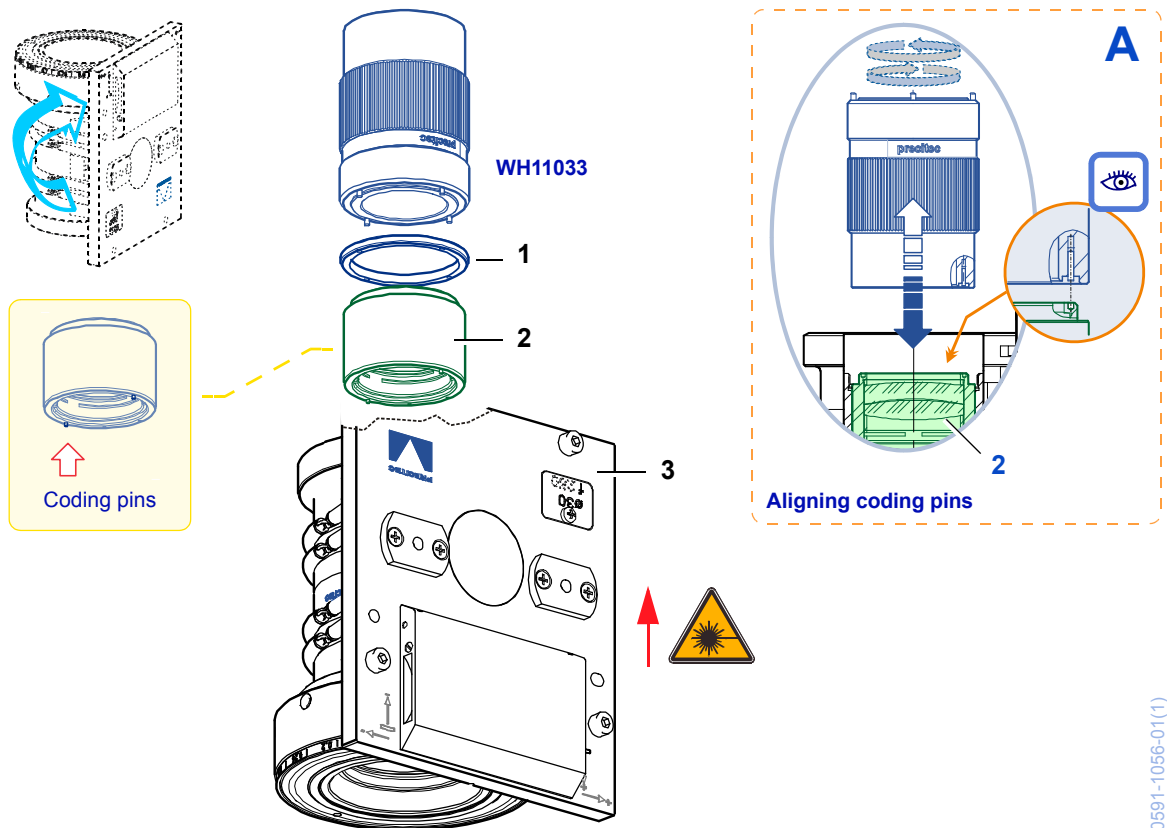

Fig. 5-8 Maintenance: Lens holder F125 (focusing optics)
2. **Insert the replacement lens holder with the coded pins** (focal length identification) **facing downwards into the exchangeable cartridge (3). Align it using the auxiliary tool (WH11033, rotated by 180°) until the coded pins engage into the exchangeable cartridge (3)** (see A, Fig. 5-8).